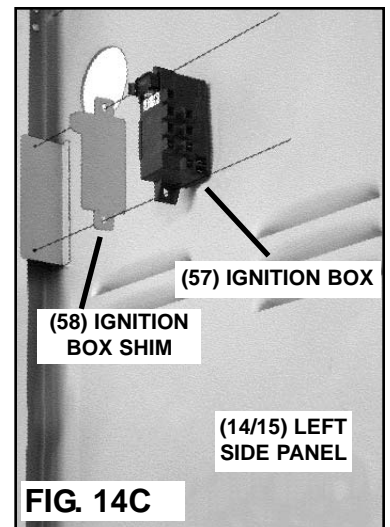

FIG. 14C
Align the Ignition Box Shim (58) and Ignition Box (57) with mounting plate on inside of LEFT Side Panel. Attach the Ignition Box and Shim with two ST4.0 X 10MM Screws (13). (Fig. 14C)
(13) ST4.0 x 10MM SCREW
(58) IGNITION BOX SHIM